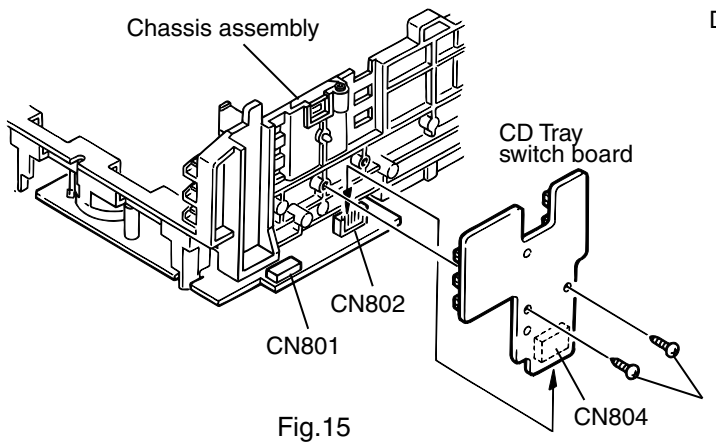

Fig.15
3. Remove the two screws **I** retaining the tray select switch board(See Fig.15).
**■ Removing the cam unit (See Fig.15 ~ 18 )**
2. While turning the cam gear **L**, align the pawl **n** position of the drive unit to the notch position(Fig.15) on the cam gear **L**.